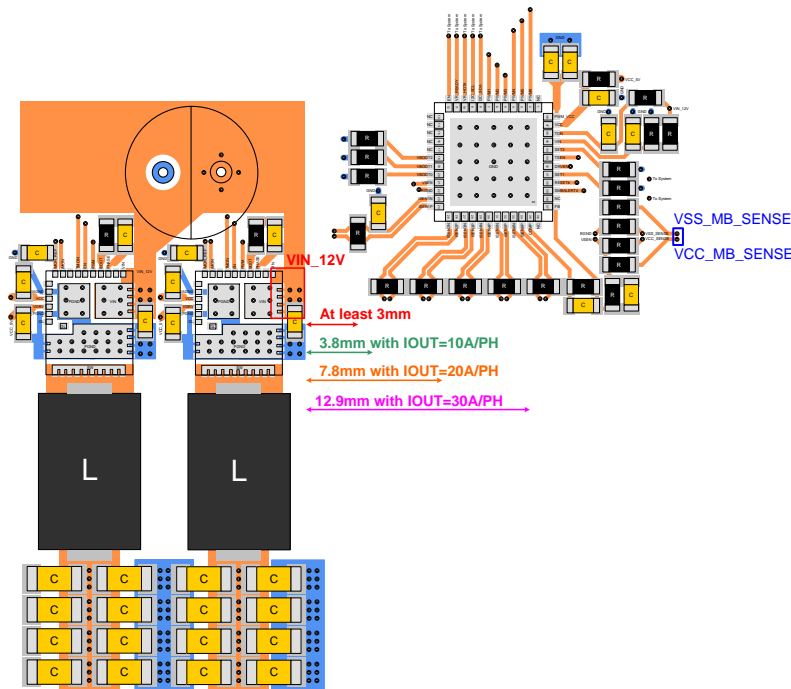

Figure 28. Controller Rotation to the Other Side
- ▶ As shown in Figure 28, if the PCB layout is too dense and the placement options 1~2 are not allowed, the RGND can be kept away from the VIN plane by rotating the controller and placing the RGND on the other side.